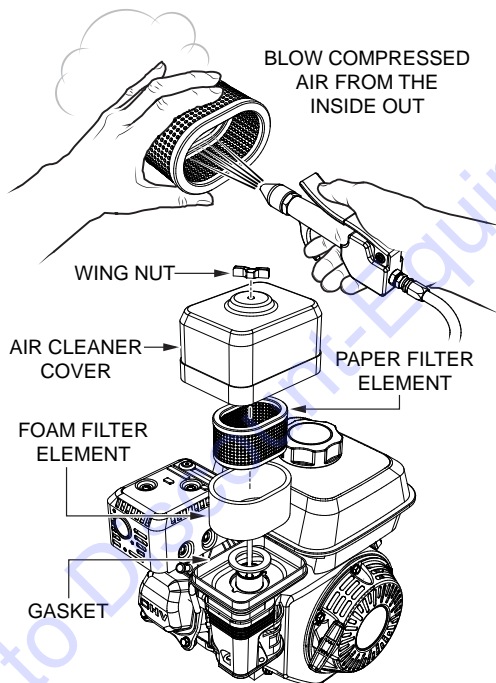

Figure 36. Engine Air Cleaner
1. Remove the air cleaner cover and foam filter element as shown in Figure 36.
2. Tap the paper filter element (Figure 36) several times on a hard surface to remove dirt, or blow compressed air [not exceeding 30 psi (207 kPa, 2.1 kgf/cm²)] through the filter element from the air cleaner case side. **NEVER** brush off dirt. Brushing will force dirt into the fibers. Replace the paper filter element if it is excessively dirty.